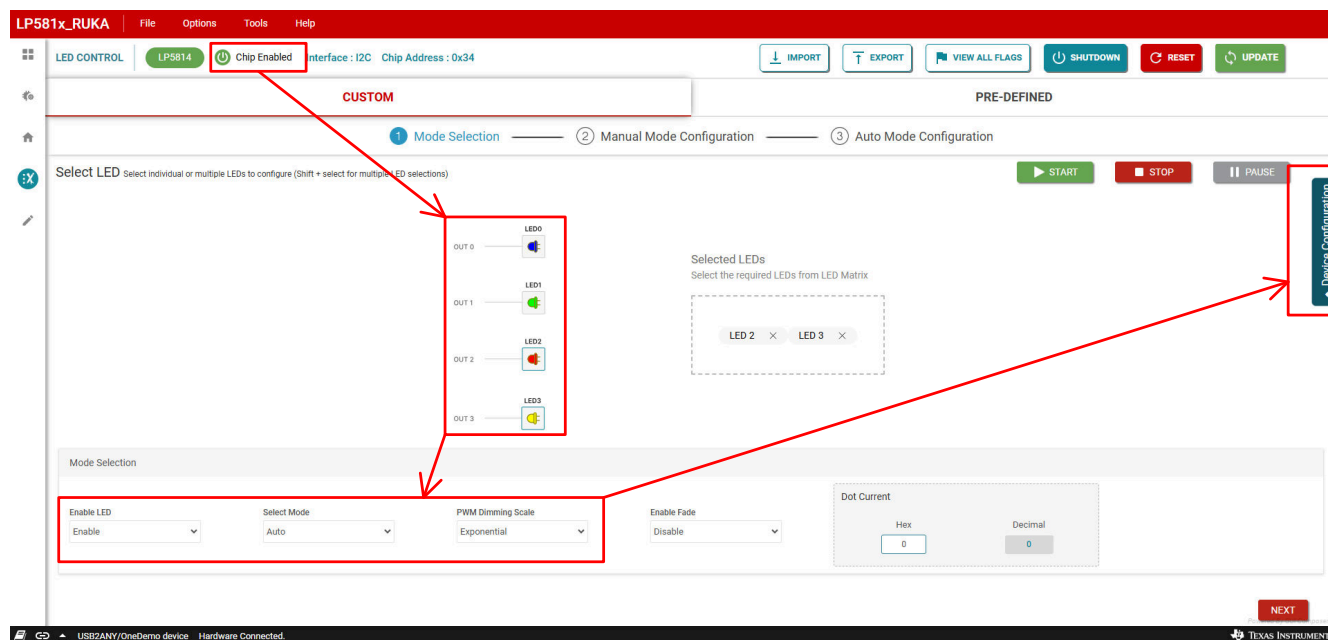

Figure 3-15. Chip Enable and Auto Mode Set
1. Enable chip through clicking *Chip Enabled* button as shown in Figure 3-15.